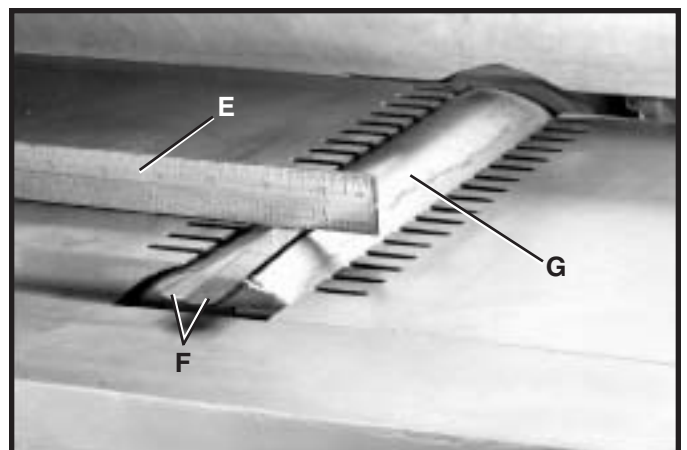

Fig. 45
- A. Using a straight edge (E) Fig. 45, and feeler gages (F) that equal .015" adjust the height of the outfeed table to be .015" above the cutterhead body (G). Then lock the outfeed table in place.